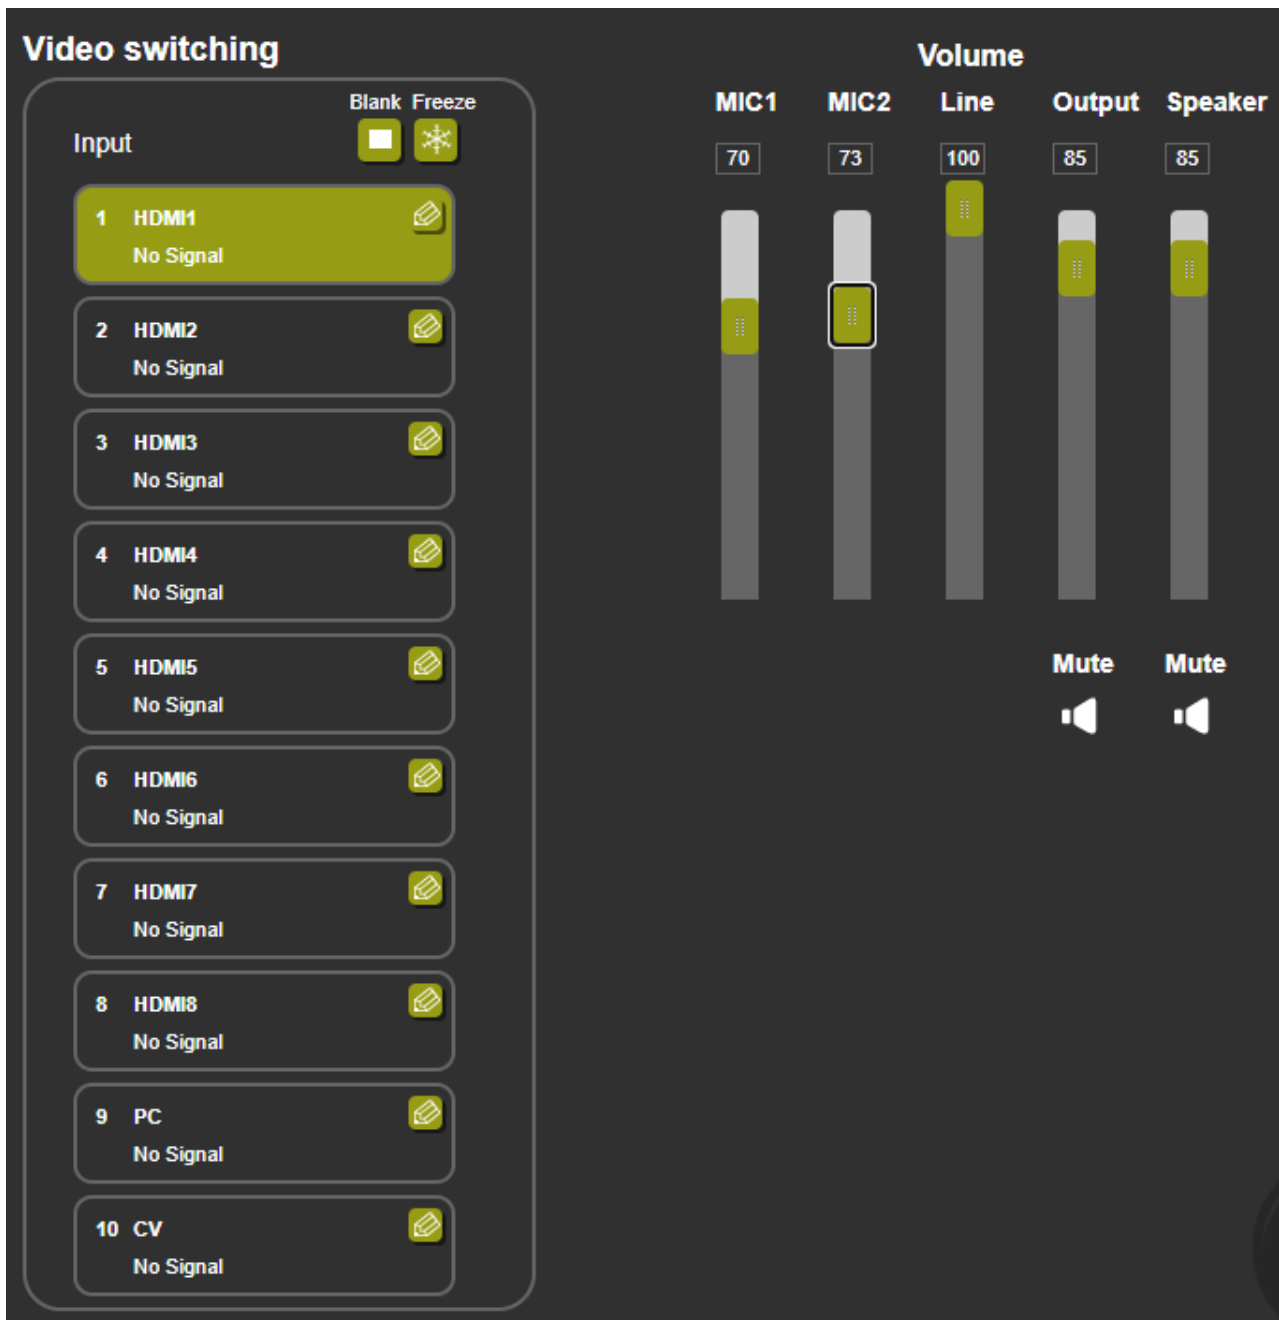

Figure 16: Input Select Page
1. In the Navigation pane, click **Input Select**. The Input Select page appears (see Figure 16).
- MIC 1 (16) /MIC 2 (18) microphone volume.
- Output (LINE OUT (22) and S/PDIF OUT (23)) volume.
- Speaker (24) volume.